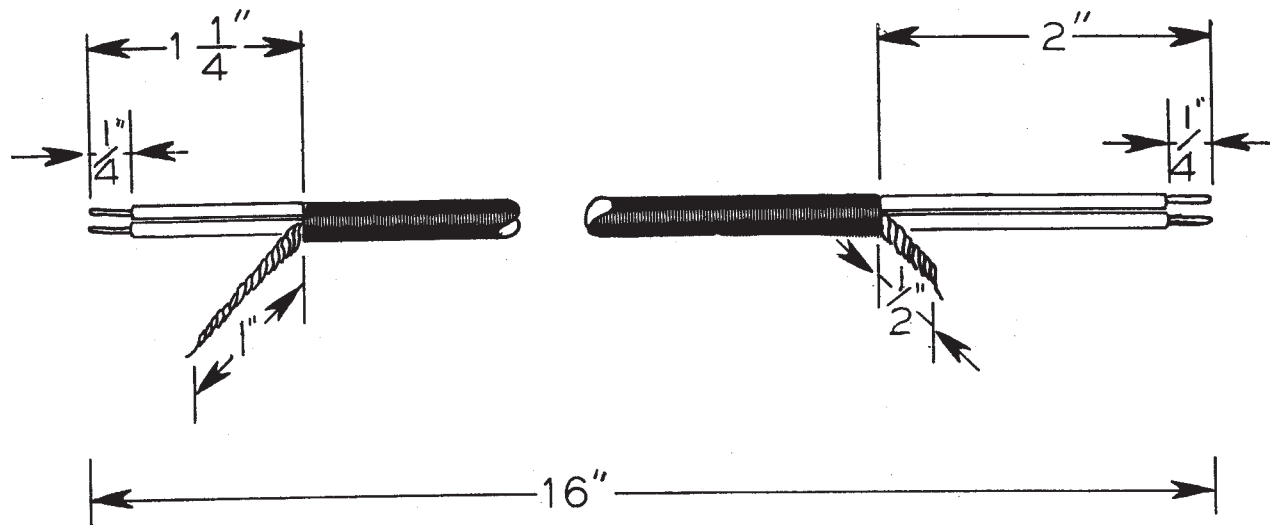

Figure 7
- ( ) Prepare the two-conductor shielded cable as shown in Figure 7. Tin ends of leads.